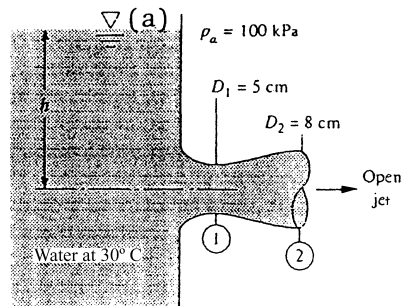

Fig. P3.170
3.170 If losses are neglected in Fig. P3.170, for what water level h will the flow begin to form vapor cavities at the throat of the nozzle?